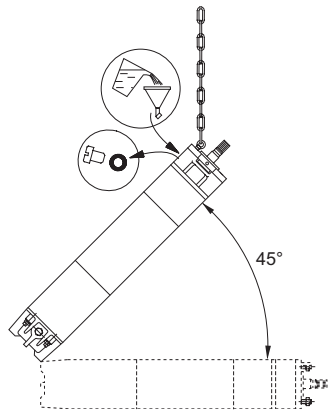

Fig. 4 Motor position during filling – MMS
1. Place the motor at a  $45^{\circ}$  angle with the top of the motor upwards, see fig. 4.